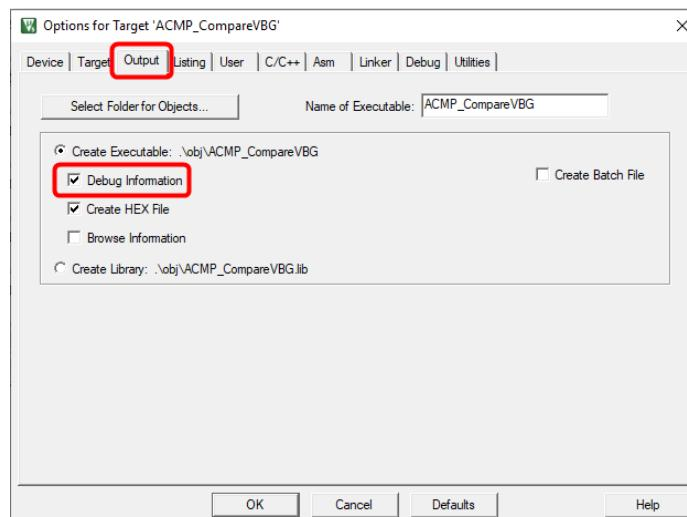

Figure 4-9 Enable Debug Information for Keil MDK
Step 3: Invoke **Project → Options for Target → Output**, and enable the **Debug Information** option, as shown in Figure 4-9.